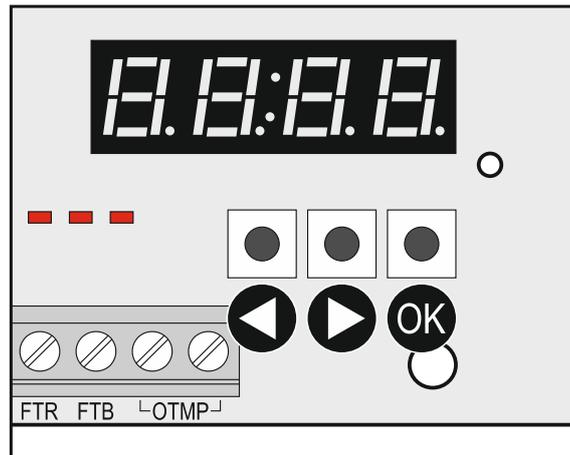

Fig. 2. Symbols of controller buttons which are used in this manual.
- ② LED indicating the status of FTR output (LED is ON when the output is connected to common ground).
- ③ LED indicating the status of FTB output (LED is ON when the output is connected to common ground).
- ④ LED indicating the status of OTMP relay output (LED is ON when relay contacts are shorted).
- ⑤ RS-232 port (TTL standard) for programming of the controller and updating of controller firmware. To connect the controller to a computer, you can use the USB-RS converter, which is offered by SATEL.
- ⑥ tamper switch.
- ⑦ bi-color LED to indicate the following states:
- ⑧ display.
- ⑨ buttons (see: Fig. 2, p. 7).
1. Press simultaneously the ◀ and OK buttons (see Fig. 2) and hold them down for about 4 seconds, until flashing digit 1 appears in the first position on the display.